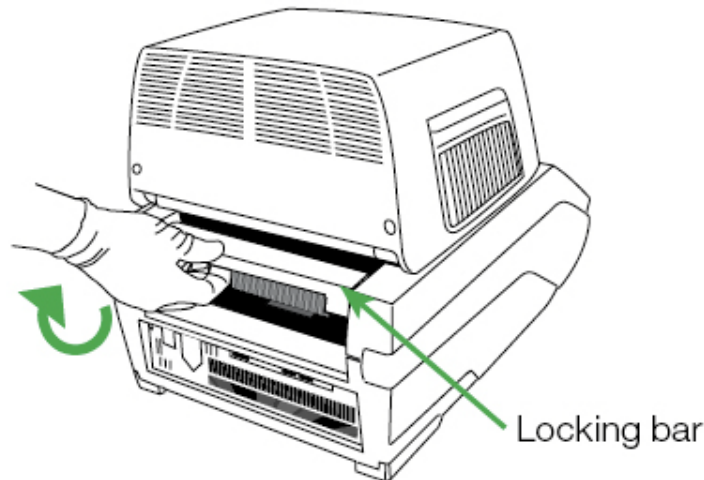

Figure 5. Locking the optical module into place.
4. Reach around and pull up the locking bar of the C1000 Touch until it is flush with the sides of the module bay. This action moves the module forward, locking it into place (Figure 5).